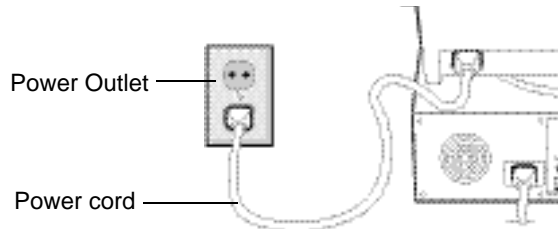

Figure C.1
- 4 Connect one end of the power cord to the monitor and the other end to the power outlet (Figure C.1).